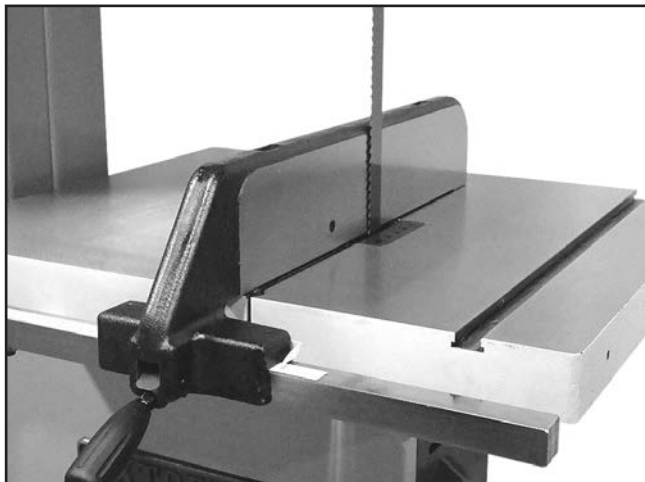

Figure 30. Fence flush with blade.
21. Place fence flush against bandsaw blade (see **Figure 30**).